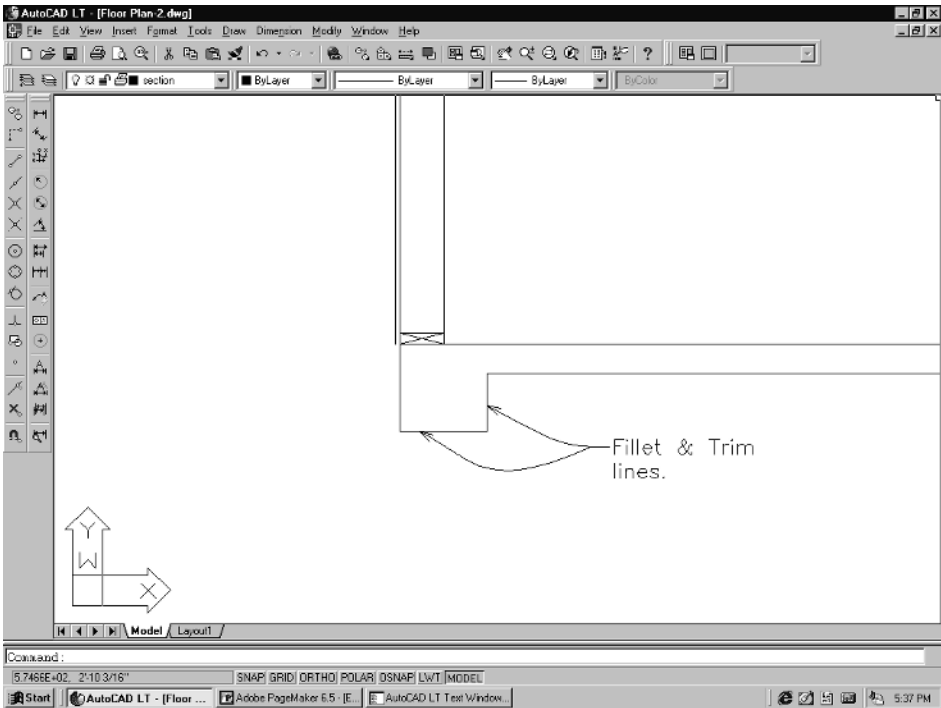

Figure 3-72
3. Fillet and trim the footing and slab lines as shown in Figure 3-72.